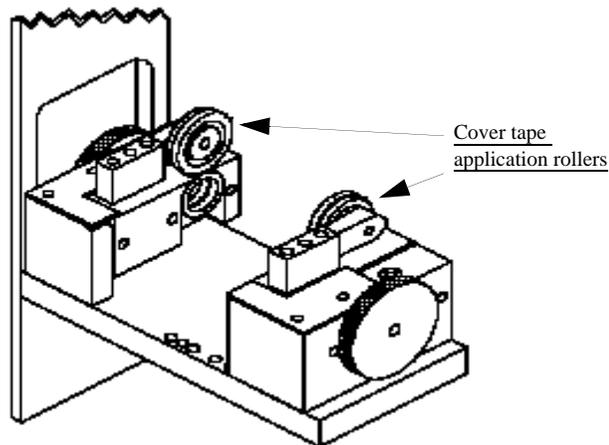

Figure 6-103—Cover tape application rollers
- 3a) Visually inspect the cover tape application rollers (see *Figure 6-103*) for build up of adhesive from the cover tape.